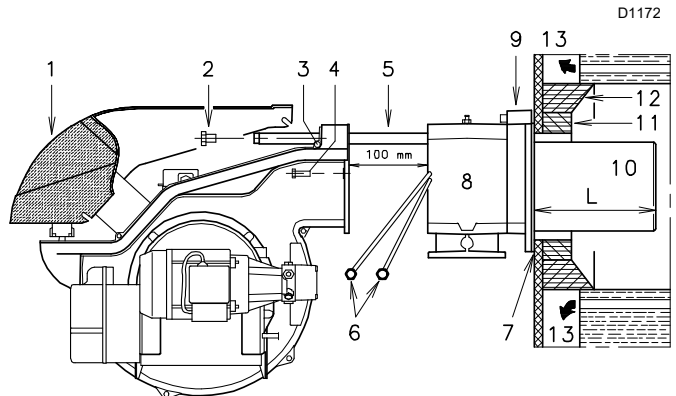
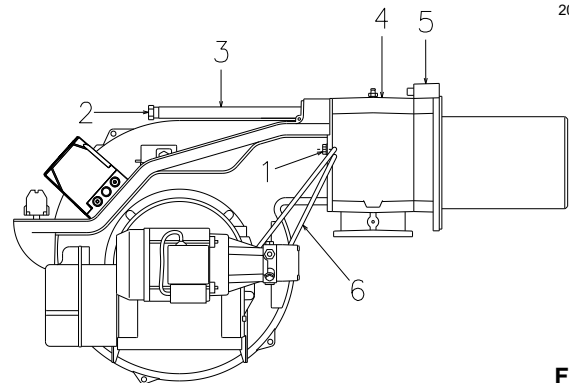

Fig. 11
Fig. 17
For boilers with a water-cooled front piece, a refractory lining 11)-12)(Fig. 11) is not necessary, unless expressly requested by the boiler manufacturer.
Separate the combustion head from the rest of the burner (Fig. 11):
Once this operation (if necessary) has been carried out, fix the flange 9)(Fig. 11 on page 18) to the boiler plate, interposing the insulating gasket 7)(Fig. 11 on page 18) supplied. Use the 4 screws, also supplied with the unit, after protecting the thread with anti-seizing product.
- Reassemble the burner on the guides 3)(Fig. 17) at about 100 mm from the pipe coupling 4), burner in the position shown in Fig. 11 on page 18;
- insert the electrode cables and then slide the burner up to the pipe coupling, the burner in the position indicated in Fig. 17;
- refit screws 2)(Fig. 17) on slide bars 3);
- reconnect the light oil pipes by screwing the two fittings 6)(Fig. 11 on page 18).